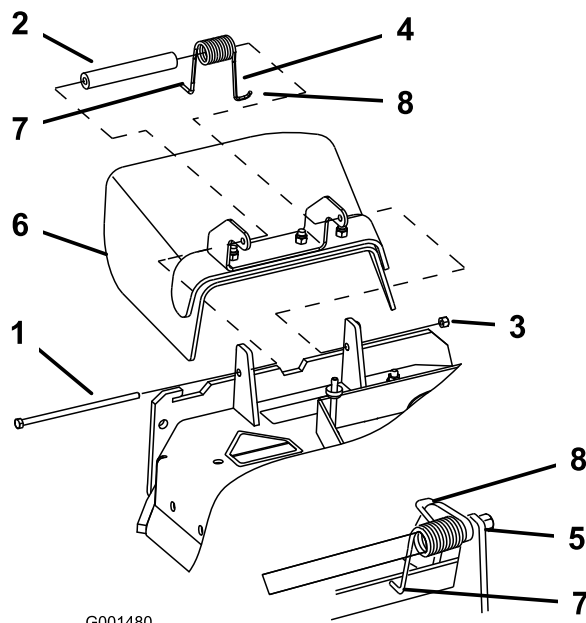

Figure 54
1. Remove the locknut, bolt, spring and spacer holding the deflector to the pivot brackets (Figure 54). Remove damaged or worn grass deflector.
Note: Make sure the L end of spring is installed behind deck edge before installing the bolt as shown in Figure 54.
3. Install bolt and nut. Place the J hook end of spring around grass deflector (Figure 54).